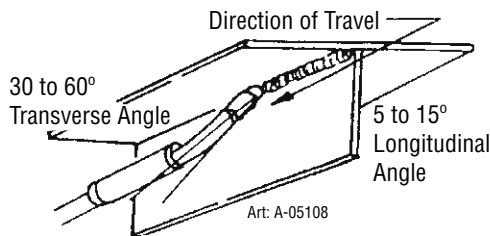

Figure 4-8: Overhead
1. Stickout—distance between the end of the contact tube (tip) and the end of the electrode wire. Keep this at about 3/8" (10mm) stickout (as shown in Figure 4-8).